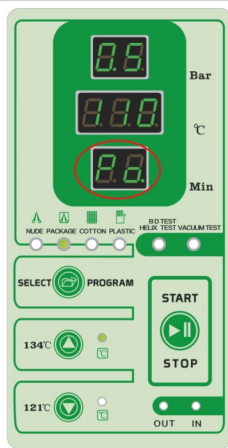

Fig.7.4-3
(3)***First times Heating stage:*** When the end of the vacuum pump to work 4 minutes,the control system will open water pump solenoid valve(Ev2) and steam generator start inject the steam into chamber,temperature display window show high temperature and up.pressure display window show high pressure and up.operation display window show “Po” .(Fig.7.4-3)
(6)***Second times Heating stage:*** When the end of the vacuum pump to work 3 minutes,the control system will open water pump solenoid valve(Ev2) and steam generator start inject the steam into chamber,temperature display window show high temperature and up.pressure display window show high pressure and up.operation display window show “Po” .(Fig.7.4-3)